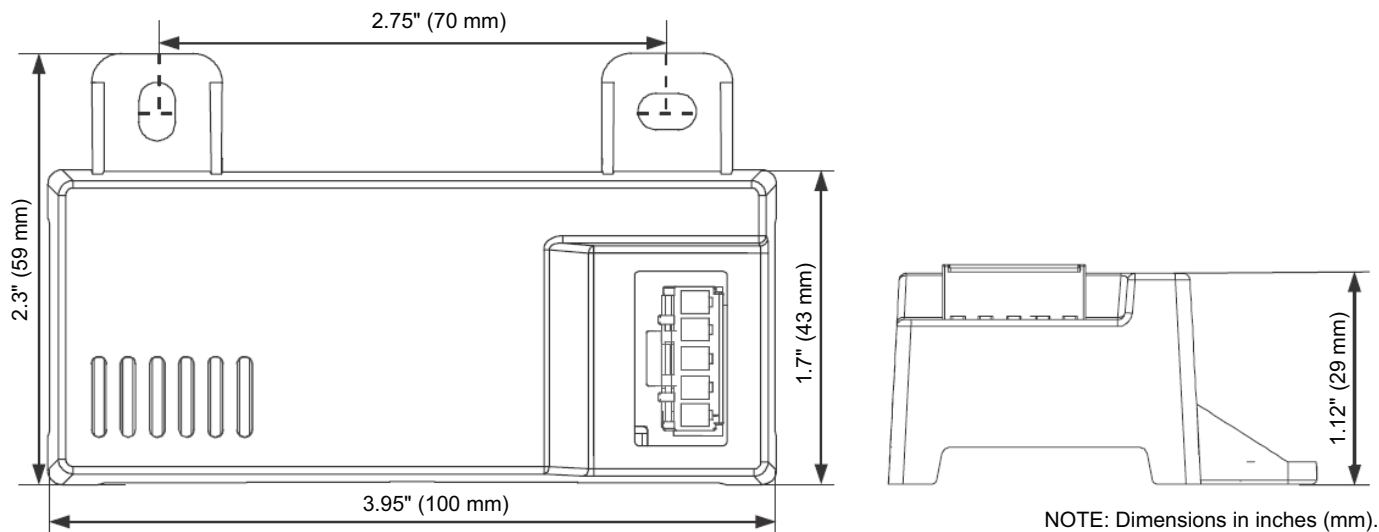
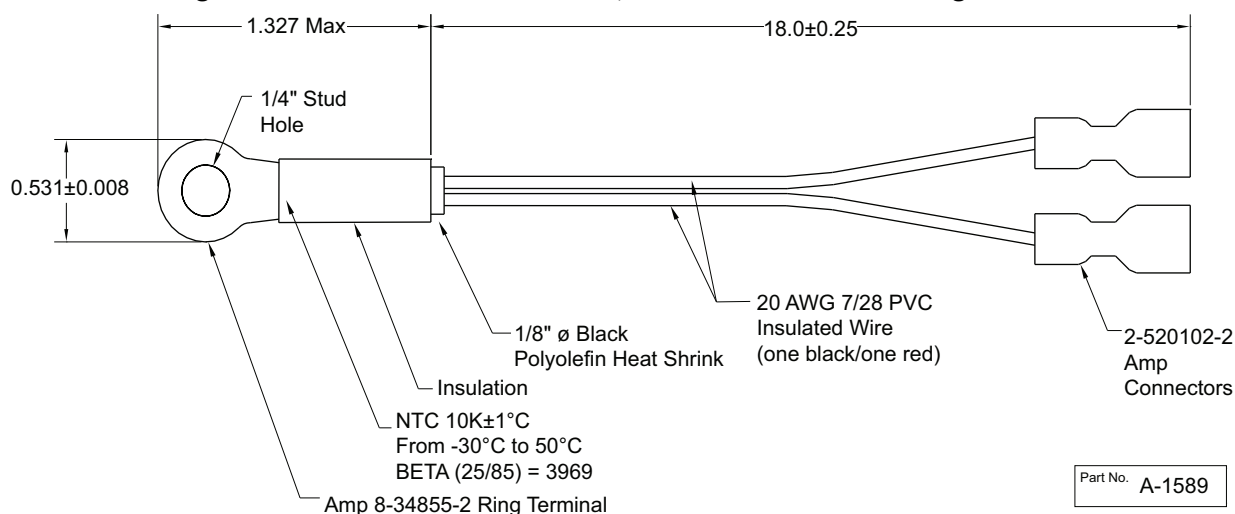
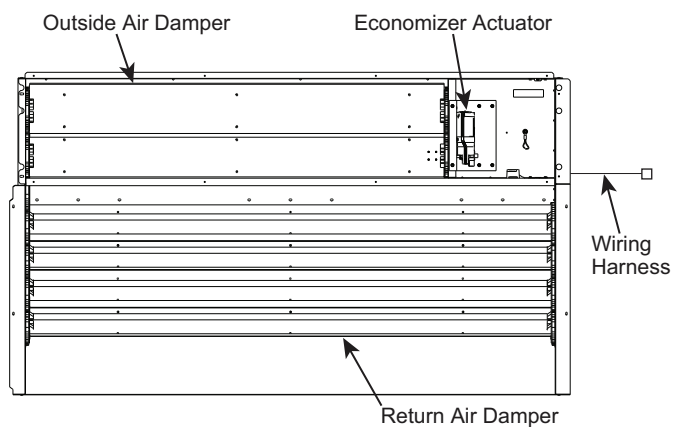

Fig. 91 — HH57LW001 Dimensional, Connection and Switching Information
Fig. 92 — HH79NZ039 Dry Bulb and Mixed Air Sensor Wiring
Fig. 93 — EconomizerONE System Component Locations
When using the HH57LW001 enthalpy sensor (see Fig. 91) for outside air changeover, the existing HH79NZ039 dry bulb sensor (see Fig. 92) must be removed. The enthalpy sensor will be mounted in the same location as the dry bulb sensor (see Fig. 93). When the enthalpy sensor's OA (Outside Air) temperature, enthalpy, and dew point are below their respective set points, outside air can be used for free cooling. When any of these are above their set point, free cooling will not be available. Enthalpy set points are configurable and create an enthalpy boundary according to the user's input. For additional details, see Fig. 94-95 and Table 36.
The optional enthalpy control sensor (P/N: HH57LW001) communicates with the POL224 economizer controller using the 5-wire harness, 48TC005213. The HH57LW001 sensor can be used as a single outside air enthalpy, a differential return enthalpy, or a differential return temperature sensor. Refer to the base unit control wiring diagrams found earlier in this book to wire the HH57LW001 enthalpy sensor for each option. See Fig. 91 and Table 38 on page 80 to locate the wiring terminals for each enthalpy control sensor.
Economizers are shipped standard with an HH79NZ039 outside air dry bulb sensor (refer to Fig. 92). System default setting (high temp limit) is 63°F (17°C) and has a range of 48°F to 80°F (9°C to 27°C). Sensor is factory installed on economizer.
If installing the optional HH57LW001 enthalpy sensor, the HH79NZ039 dry bulb outside air sensor must first be removed. Wire sensor to harness 48TC005213 and the (5) wires from the harness to the EconomizerONE harness in the return air chamber. Harness 48TC005213 has a 5-pin plug that connects directly to the HH57LW001 enthalpy sensor. Refer to the base unit control wiring diagrams earlier in this book for wiring connections. Refer to Fig. 91 and see Table 38.